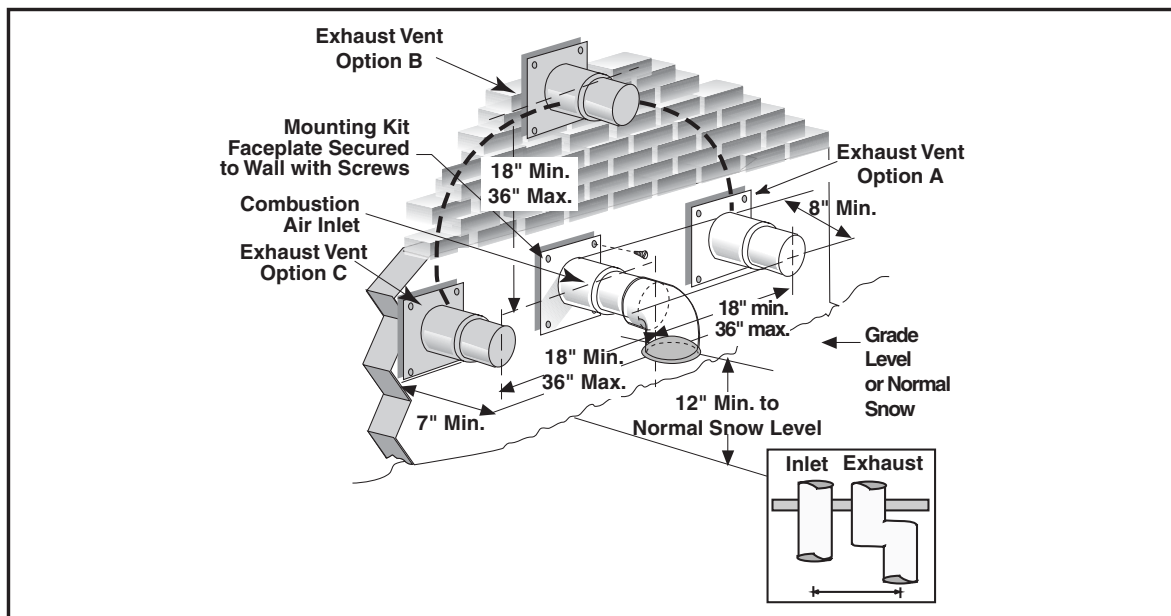

**Figure 21. Alternate Horizontal Vent Installation**
4. Insure the combustion air inlet pipe (for a 2 pipe installation) has a 90 degree termination elbow as shown in Figures 21 and 22.
For a right side drain simply extend the tubing out of the 7/8" hole in the cabinet, see Figure 21. For a left side drain follow the steps below: